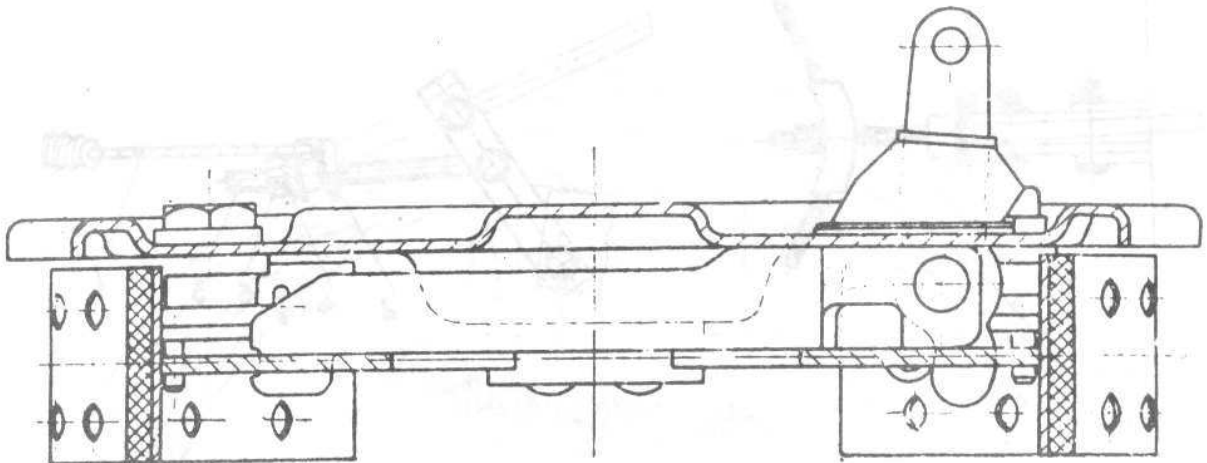

Fig.2.42. REAR WHEEL BRAKE ANCHOR PLATE.
- Using a lever (see fig.2.42) remove the end of one shoe from brake cylinder slot and then from shoe support.